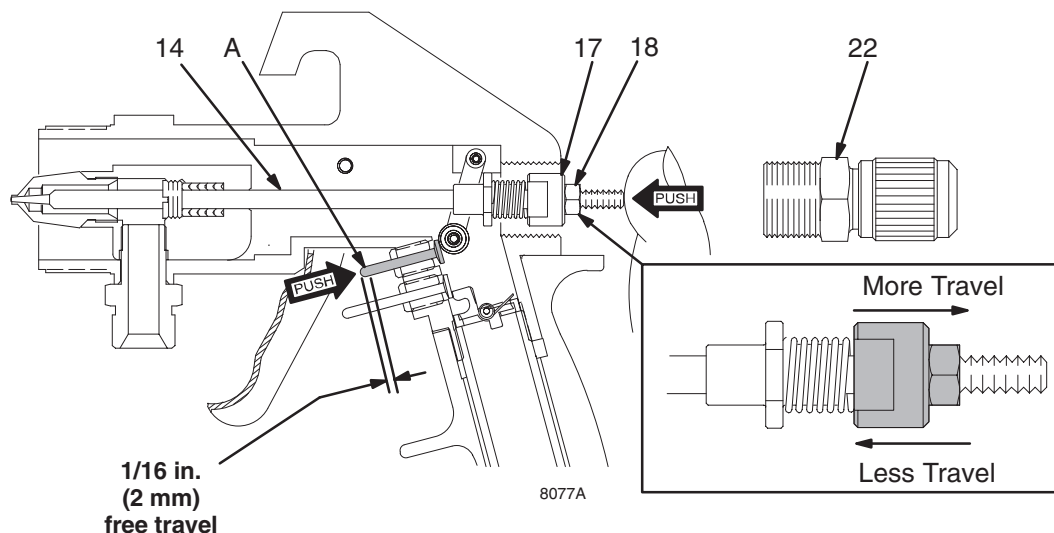

Fig. 20 _____ **Model 980 shown**
1. Fig. 20. Remove fitting (22) and spring (23-not shown) from back of gun.
2. Remove needle (14).
3. Insert new needle (14).
4. Hold needle (14) with thumb and push upper trigger pin (A) with index finger. Fig. 20. Trigger pin must travel approximately 1/16 in. (2 mm) under light spring pressure.
5. If there is not 1/16 in. of travel, loosen adjustment nut (18) and turn drum (17) until trigger pin (A) has about 1/16 in. (2 mm) free travel before needle (14) starts to move.
6. Lock adjustment nut (18).
7. Make sure spring (23) is in place in fitting (22), then install fitting. Hand-tighten fitting.